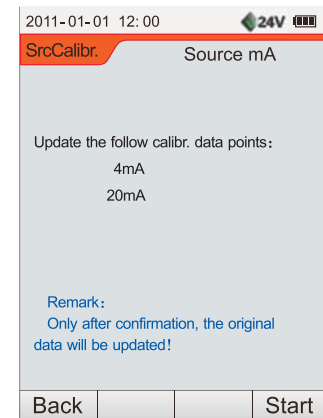

Figure 9.21 Current source calibration
- b) As Figure 9.21, the calibrator will prompt the calibration points of the present item (4mA、20mA) . Use press **F4** or **Enter Hold** to start.